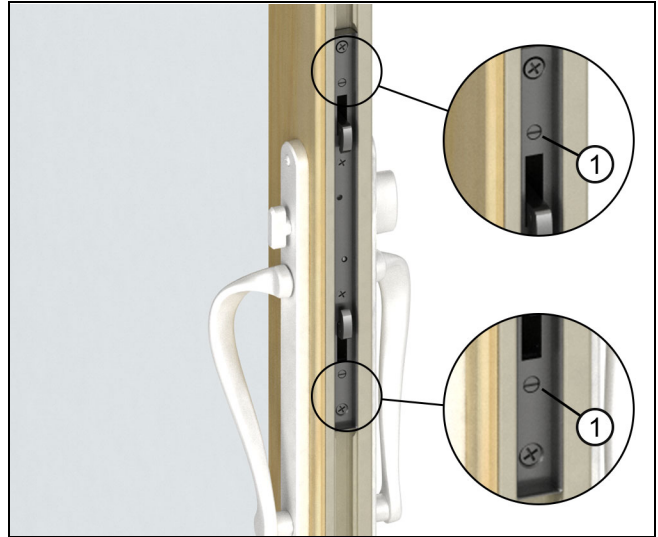
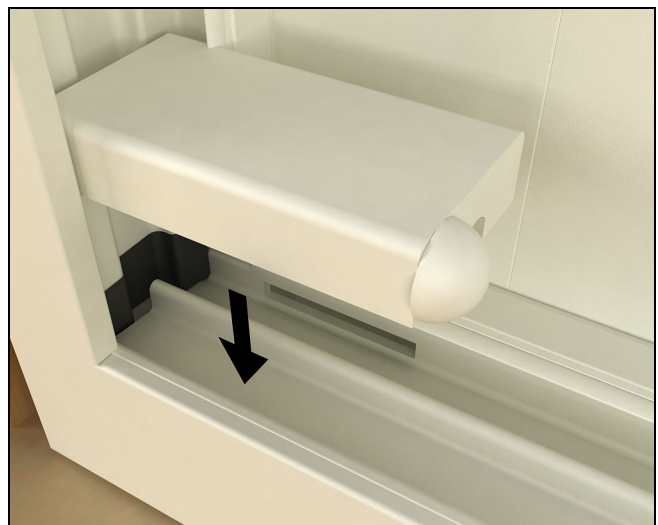

Figure 19
Figure 20
2. After the door and strike are aligned, adjust the latch hooks by turning the adjustment screws counterclockwise to move the hooks in or clockwise to move the hooks out of the mortise lock. Each hook has a separate adjustment screw. See Figure 19.
1. For bumper installation on OX/XO, OXO, and OXXO configurations, see figure 19. (For reference, adhesive tape is applied to the interior side of the block and is pressed against the head jamb or sill to attach.) Hold each block in place and determine which end to install the bumper in (bumper toward operator panel). Center the bumper on the interior side of the end and tap into block. Remove adhesive tape backing from block. Position against the stationary side jamb and press into place. See Figure 20.